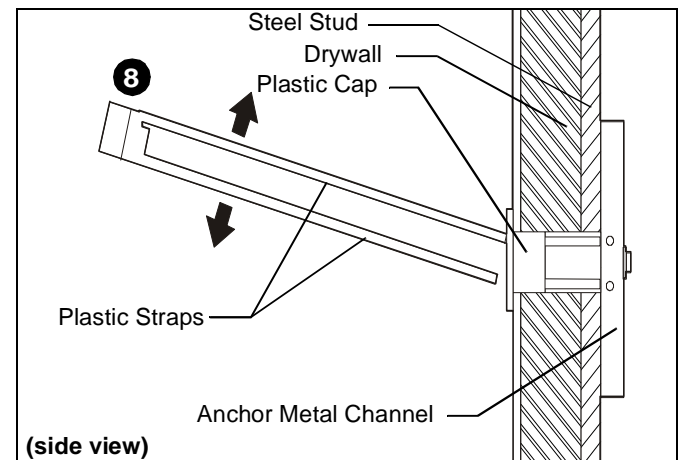

Figure 7
8. Snap off plastic straps on anchor at wall by pushing side to side, snapping off straps level with flange of plastic cap. (See Figure 7)